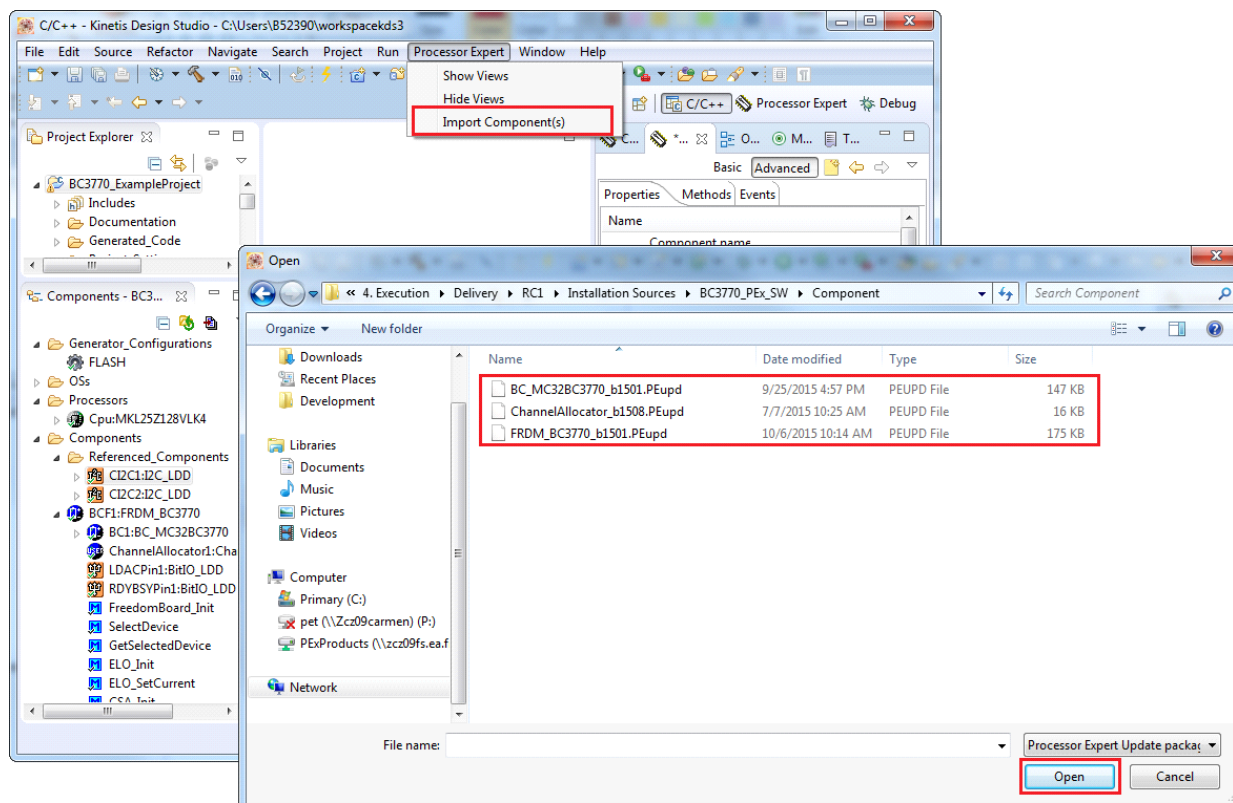

Figure 9. Importing the BC3770 components
2. In the pop-up window, locate the Component files (.PEupd) in the folder BC3770_PEx_SW\Component. Select **FRDM_BC3770_bxxxx.PEupd**, **BC_MC32BC3770_bxxxx.PEupd** and **ChannelAllocator_bxxxx.PEupd** files then click **Open** (see Figures 9).